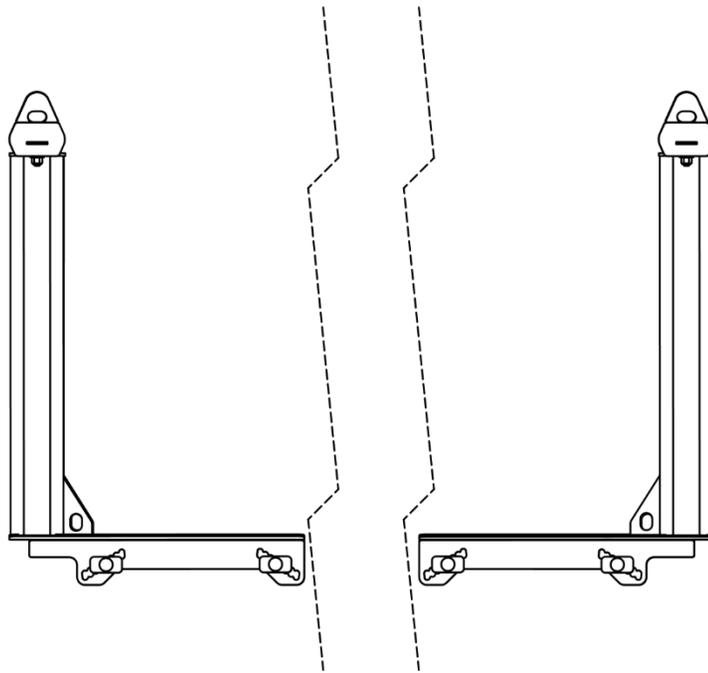
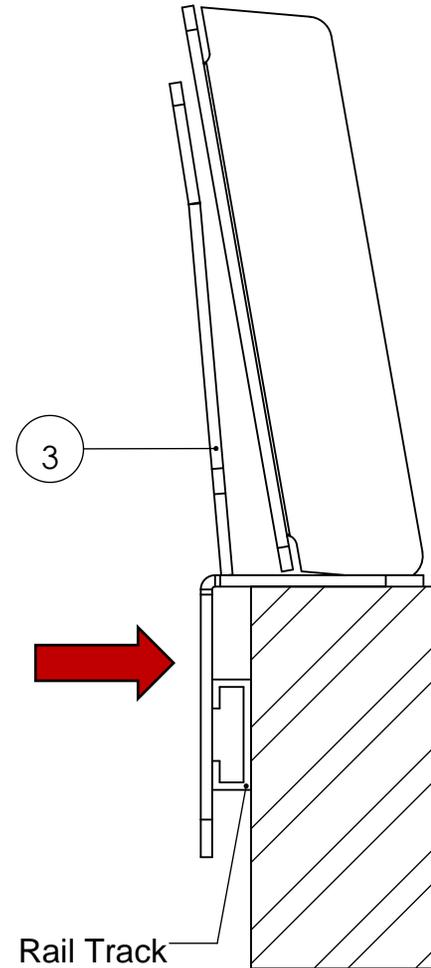

Figure 1
Figure 2
1. **Position the base of the rack.** To install the rack's base, you must first place each Base Rail Assembly (**Item No. 3**) correctly on the bed rail. Examine each one and locate an oval shaped eyelet on the gusset. These eyelets should be positioned so that they face each other as shown in **Figure 1**. Complete the positioning by sliding the Base Rail Assembly onto your truck's bed as shown in **Figure 2**. Keep in mind that the distance between the Base Rails is at your discretion.